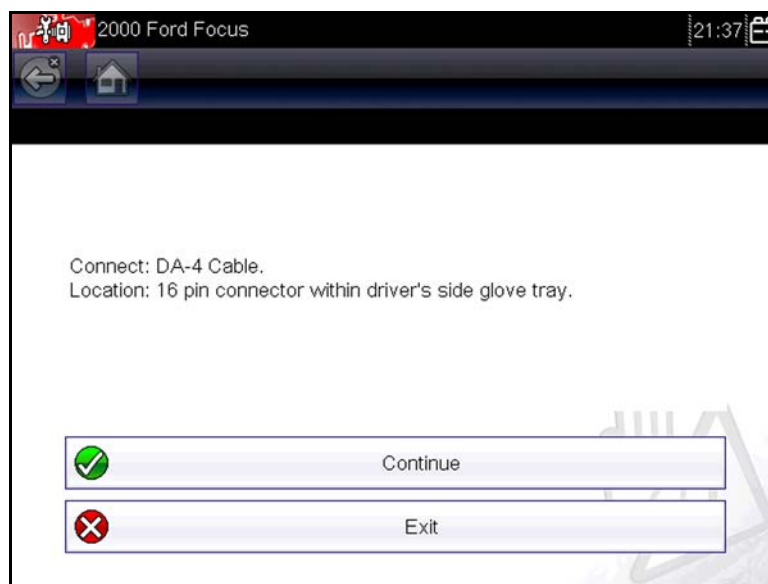

Figure 5-4 Sample vehicle connection message
Make a selection from the systems available for testing list and instructions for connecting the scan tool to the vehicle with the data cable display on the screen (Figure 5-4).
1. Follow the on-screen instructions for connecting to the vehicle (Figure 5-4).